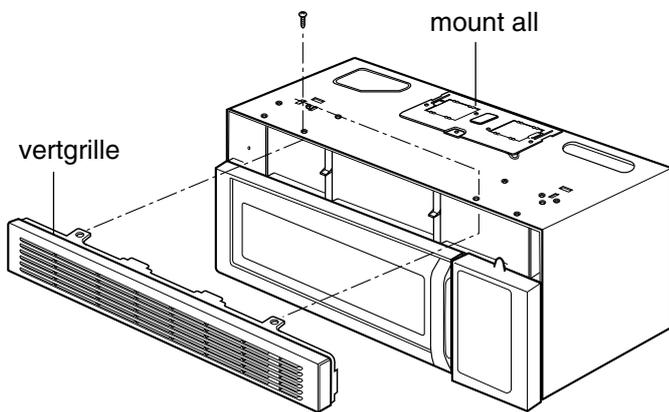

Figure 11
D. REMOVING MAGNETRON (Figures 11 Through 13)
- (1) Remove vertgrille.
- (2) Remove mount, all.
- (3) Remove outcase.
- (4) Disconnect the wireleads.
- (5) Remove the 3 screws and **Magnetron** very carefully.